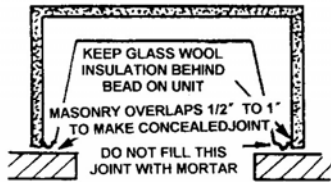

Fig. 3 Insulation and concealed joint
**Step 3** Lay the first course of masonry dry around the unit to check dimensions, thickness of mortar joints and grill locations. Take care to prevent the masonry from touching the unit at any point. The finished width of the fireplace opening should be 1" to 2" less than the width of the Heat-Circulator opening. Lay the masonry beyond the Heat-Circulator on each side of the Heat-Circulator opening, making a concealed joint between the Heat-Circulator and the masonry. Due to heat expansion, mortar will not stay in this concealed unit. (See Figure 3)